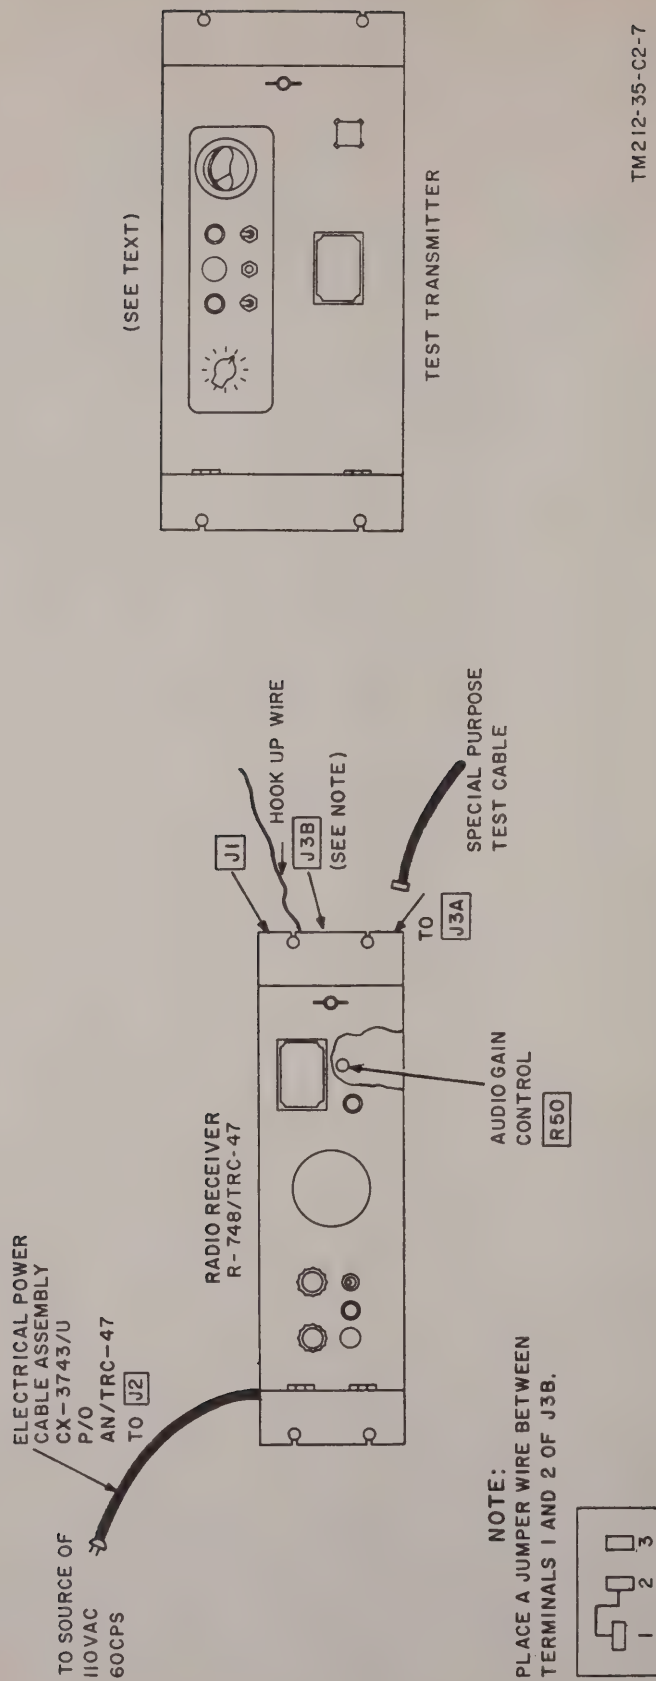

Figure 48.7. (Added) Receiver operational test.
*b. Test Connections and Conditions.* Connect the equipment as shown in figure 48.7.*c. Test Procedure.*